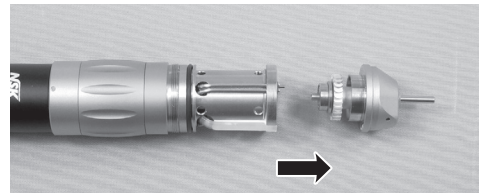

Fig. 16
- (2) Hold the bur and pull to take out the cartridge toward the front. (Fig.16) At this time, the O-ring placed on therear bearing may remain in the body. Make sure to remove the O-ring. Before inserting a new cartridge, clean the head interior.